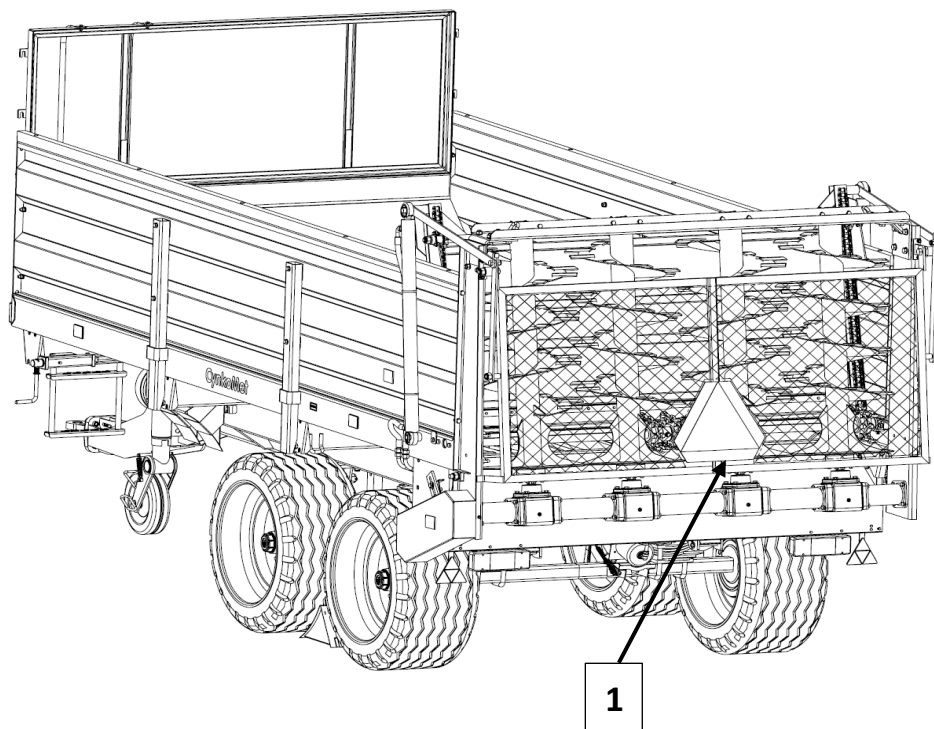

Figure 4. The location of the placement of the plate distinguishing slow-moving vehicles.
- While driving on public roads, the spreader should be equipped with a certified or approved warning triangle. A triangular plate should be placed on the rear wall for slow-moving vehicles (1) as shown below (Fig. 4). The triangle is to be fastened to the holder on the adapter's guard.